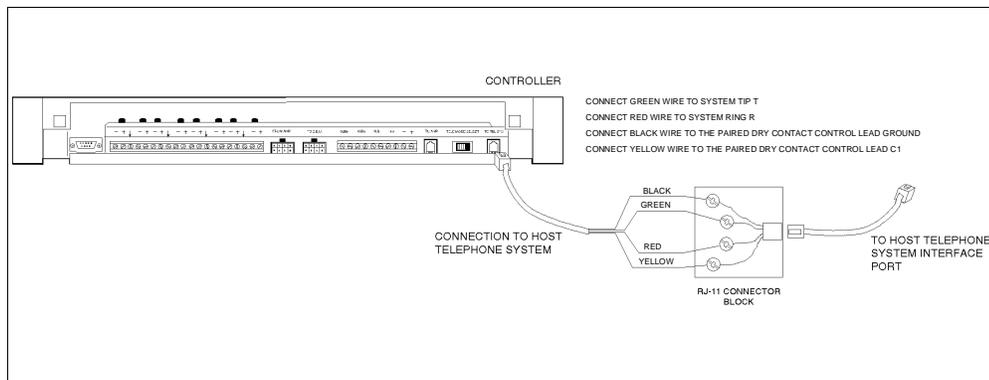

Figure 11. Connecting Host Telephone System to Controller
- Connect cable from host telephone system to Controller Page Input. See Figure 11.